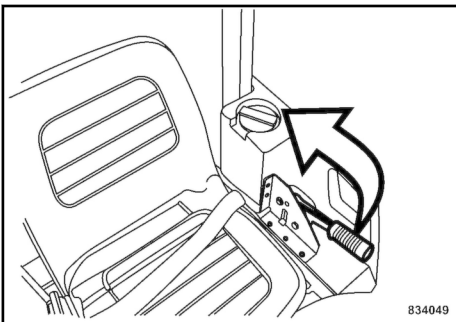

Fig. 114
2. Pull up the parking brake lever ↪ Fig. 114.